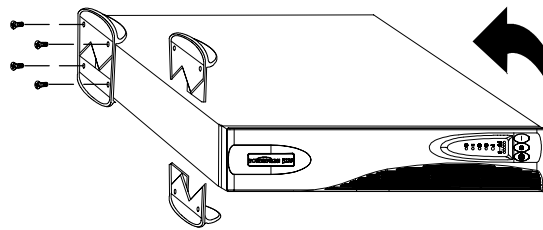

Figure 6. Installing Pedestals on a Single Cabinet
2. Place the UPS cabinet horizontally so that the left end of the unit is accessible (see Figure 6).